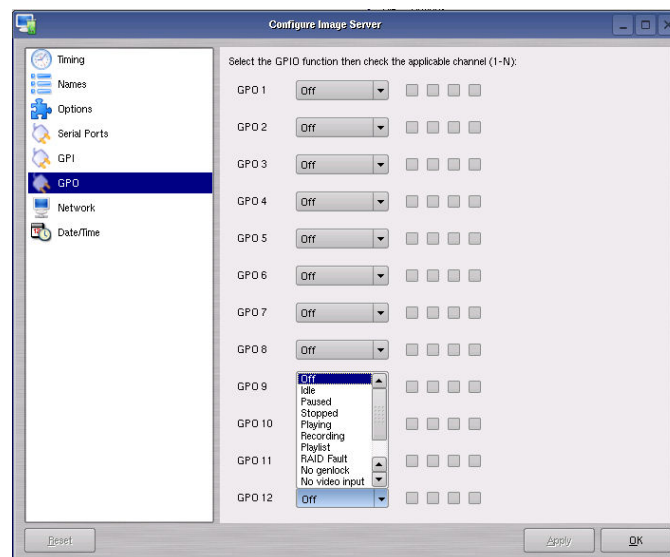

Figure 26 - GPO Configuration Screen
- A. Select **EDIT > CONFIGURE->GPO**. The screen of Figure 26 is displayed. GPO 1 through 12 are the 12 triggerable outputs. The checkboxes to the right of each selection represent channel 1, 2, 3 and 4. GPO 9 is shown with the trigger option pulldown expanded.